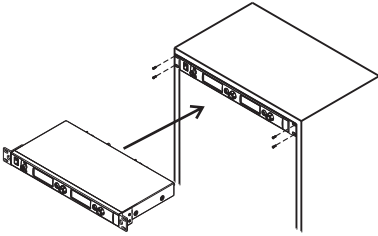

Fig.6
3. Receivers can be fitted on an EIA standard 19-inch rack case. For improved reception, an optional rear-to-front antenna cable installation through rackmount screw holes ⑨ is highly recommended, Fig. 6.